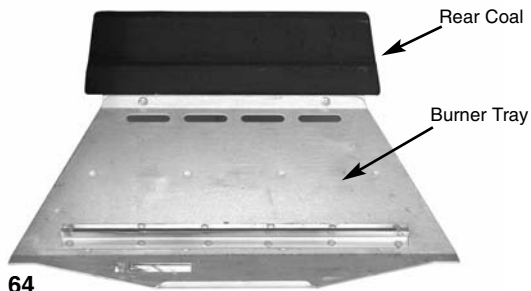

Fig. 64
1. Place the rear coal on the rear coal retainer ledge in a central position, ensuring the step portion is facing the front (Fig. 64).